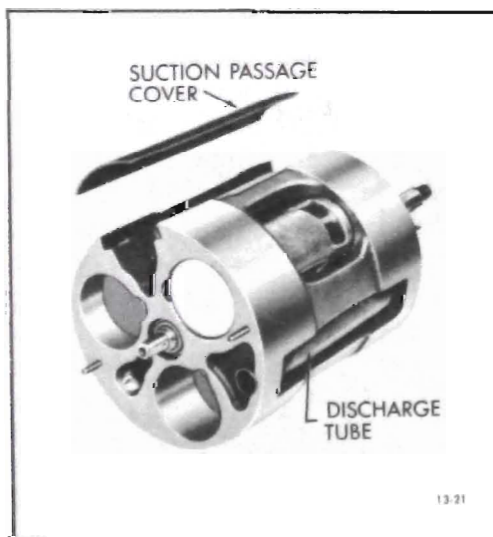

Figure 13-32 Suction Passage and Discharge Tube
8. Suction Passage Cover - The suction passage cover fits over a suction passage (see Figure 13-32) in the body of the cylinder assembly. Low pressure vapor flows from the suction port through the suction passage in the cylinder assembly, and into the suction cavity of the front head.